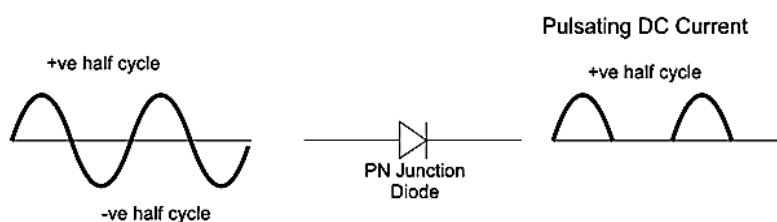

Fig.1.12: Half wave rectifier operation
- Half-wave rectifiers allow only **one half-cycle (+ve half-cycle)** of the AC voltage through it and will block the other half-cycle (-ve half-cycle) of the AC voltage as shown in the Fig.1.12.